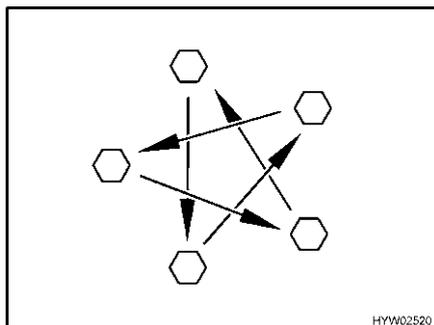

Fig. 268 Tighten the wheel nuts or wheel bolts cross-wise
- Check regularly that the wheel nuts or wheel bolts are firmly seated. Retighten the wheel nuts or wheel bolts of a changed wheel cross-wise (Fig. 268) after 50 km (30 miles). See section 13.5.2 for tightening torque.
- ▷ Tighten the wheel nuts or wheel bolts cross-wise (Fig. 268).